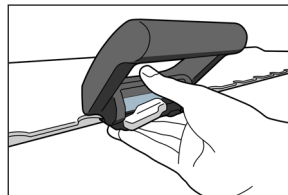

Fig. 6
1. Ensure the lever is in the unlocked position (Fig. 6).